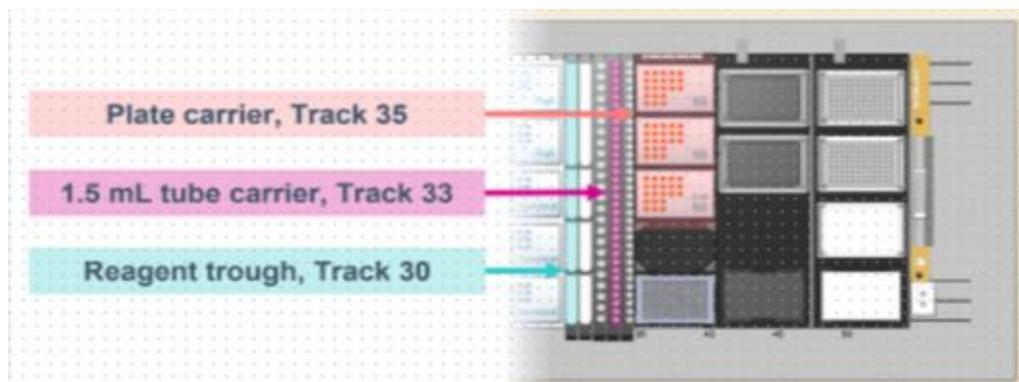

Figure 3: A visual representation of the Hamilton deck, and the key carriers for WGS Deck setup.
- c. Place the following reagents according to the diagram on the screen (Figure 3):